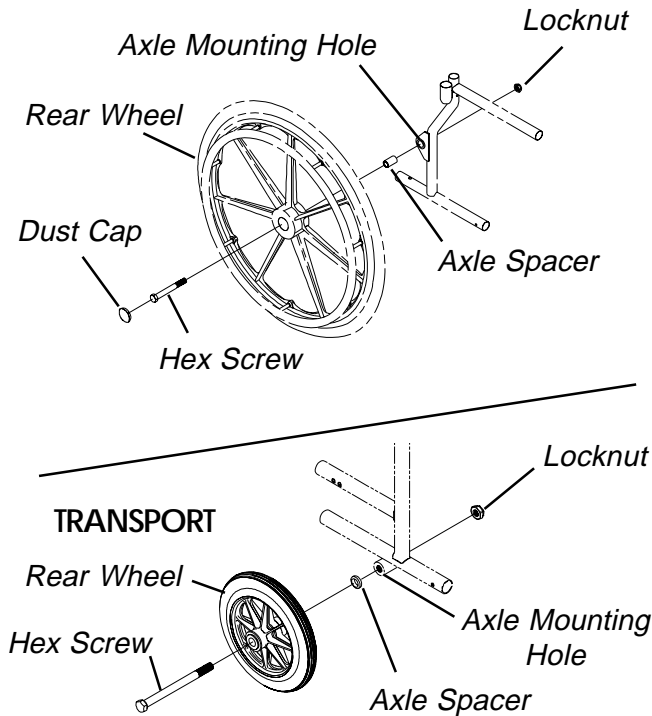

FIGURE 1 - REMOVING/INSTALLING THE REAR WHEELS
**REMOVING/INSTALLING THE REAR WHEELS (FIGURE 1)**